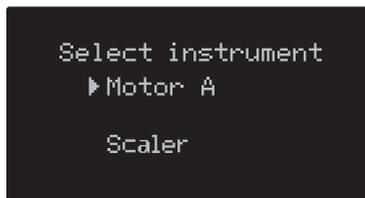

Fig.3 Display when selecting the instrument
- 2) Press **[ESC]** key at the normal display. The display will go to instrument selection mode when using Motor A or Scaler. The screen shown in Fig.3 is displayed.